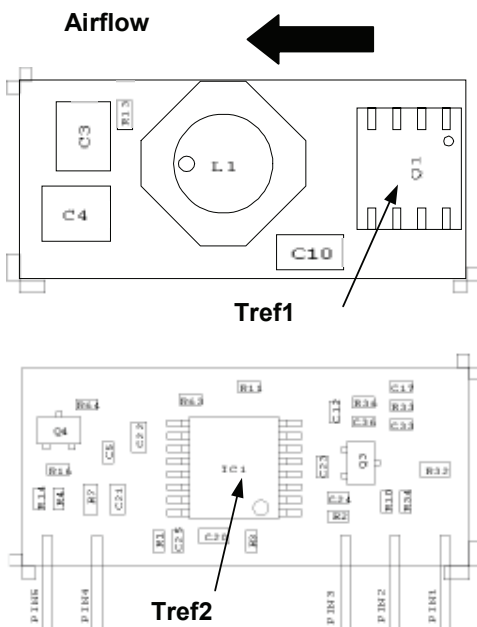
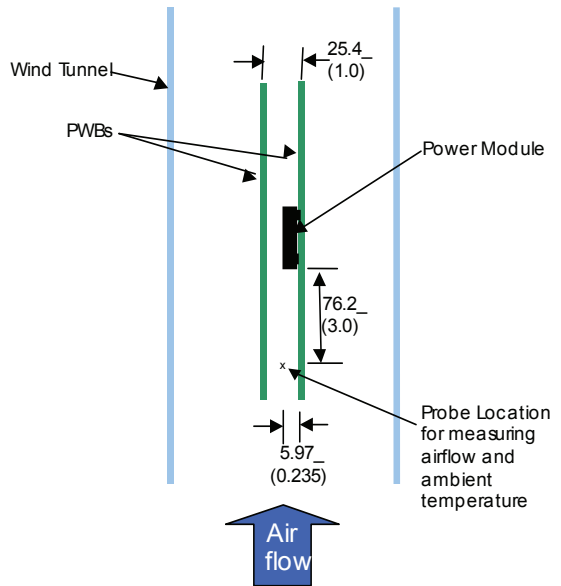

Figure 31.  $T_{ref}$  Temperature measurement location.
Figure 32. Thermal Test Set-up.
To provide over temperature protection in a fault condition, the unit relies upon the thermal protection feature of the controller IC. The unit will shutdown if the thermal reference point  $T_{ref2}$ , (see Figure 31) exceeds  $140^{\circ}C$  (typical), but the thermal shutdown is not intended as a guarantee that the unit will survive temperatures beyond its rating. The module will automatically restarts after it cools down.
Considerations include ambient temperature, airflow, module power dissipation, and the need for increased reliability. A reduction in the operating temperature of the module will result in an increase in reliability. The thermal data presented here is based on physical measurements taken in a wind tunnel. The test set-up is shown in Figure 32. Note that the airflow is parallel to the long axis of the module as shown in figure 31. The derating data applies to airflow in either direction of the module's long axis.
The thermal reference point,  $T_{ref}$  used in the specifications is shown in Figure 32. For reliable operation this temperature should not exceed 115°C. The output power of the module should not exceed the rated power of the module ( $V_{o,set} \times I_{o,max}$ ).